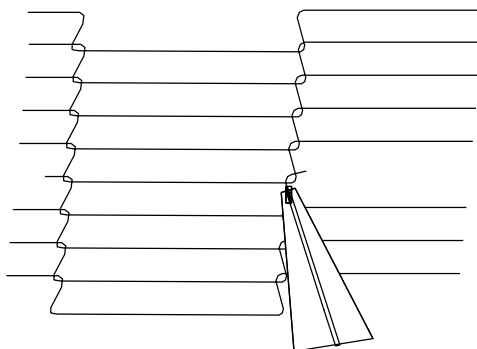

Figure 4-28.
2. Using long nose pliers, unhook master links at left end of conveyor as shown in Figure 4-28.